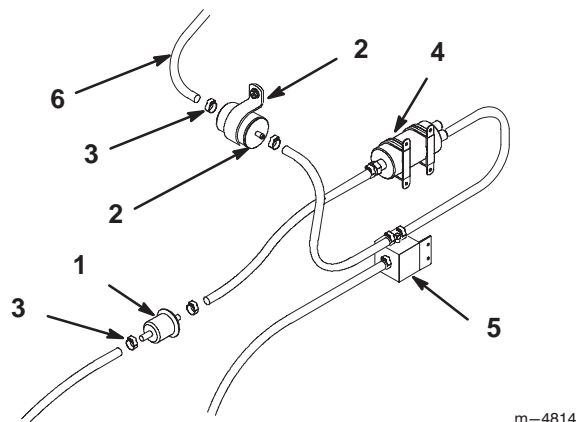

Figure 30
3. Remove clamps with special pliers (Fig. 30).
4. Remove the filter from the fuel lines (Fig. 30).
5. Install a new filter and hose clamps close to the filter (Fig. 30).
4. Remove clamps with special pliers (Fig. 30).
5. Remove the filter from the fuel lines (Fig. 30).
6. Remove high pressure fuel filter from R-clamp (Fig. 30).
8. Install a new filter and hose clamps close to the filter (Fig. 30).